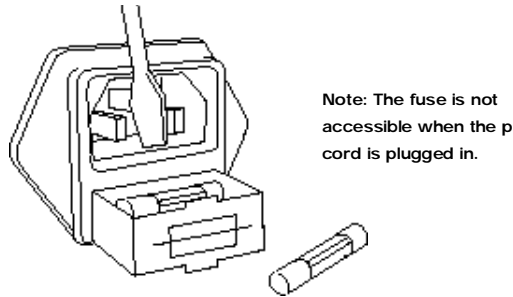

Figure 9
1. Check that the AC Detachable Power Cord is plugged into the Pre 2L Detachable Power Cord Socket (P) and is connected to a live source of AC power. For instance, if using a power bar, check that the bar is turned on.
- The AC power fuse is intact and has not blown. If the fuse has blown, the thin metal conductor will have melted and the glass may appear “smoked”. If the fuse has blown, replace with a fuse of the same rating (0.8 Amp/250V slow-blo for 100 to 120 volt countries and 0.4 Amp/250V slow-blo for 200 to 240 volt countries). (See Figure 9)